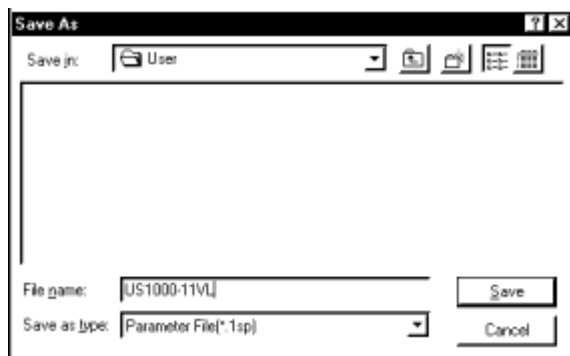

Figure 5.2.1 [Save As...] Dialog Box
- (1) From the tool menus, choose <File>, then <Save As...>. The [Save As...] dialog box (Figure 5.2.1) appears.
- (2) Type a name (of less than 16 alphanumeric characters) in the <File Name> text box, and then click the <Save> button.
- (3) The parameter data is saved on disk.